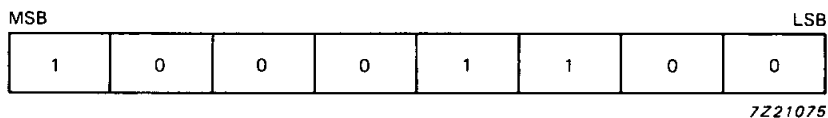

Fig. 6 Address byte.
* For address and data byte definition see Fig. 6 and Table 1 respectively.